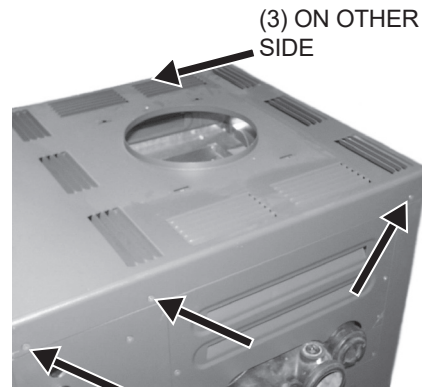

Figure 5. Screw Locations
4. Remove the (6) Phillips screws that hold the jacket top to the heater. See **Figure 5**.
6. Lower the jacket top back onto the heater and reinstall the (6) Phillips screws. See Figure 5.